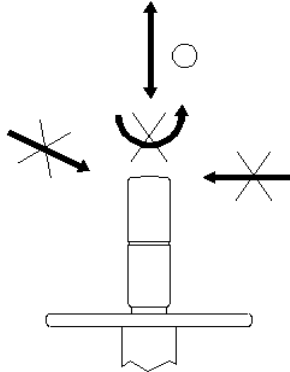

Fig. 3
- 3) Rotate the Sensing Head is prohibited. Some certain angles between Sensing Head & measuring object are not allowed ( ref. Fig. 3 ).